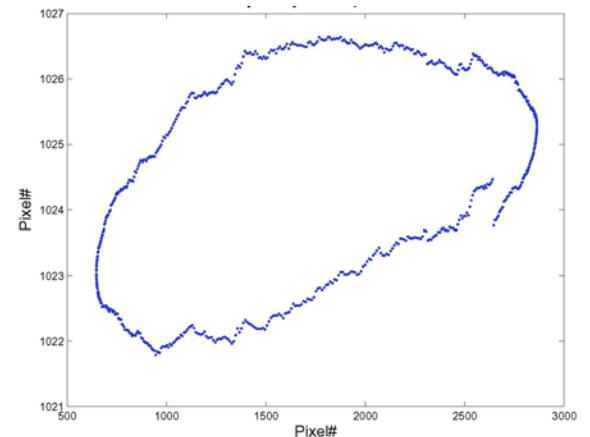

Figure 7-92
b.) Graph 6 is a bumpy ellipse, but is acceptable as long as the ellipse is within \pm 5 pixels vertically on the graph (Figure 7-92).